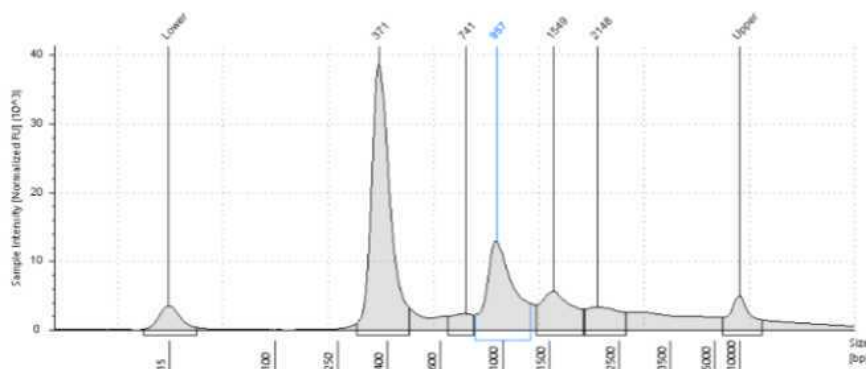

Figure 2: Multimer PCR product formation in multiplex PCR of undiluted high titer samples.
- High titer SARS-CoV-2 samples can exhaust-free ARTIC primers and form aberrant multimers during multiplex PCR (refer fig. 2). These larger amplicons can cause issues during downstream sequencing that impact genome sequence recovery. Hence, RNA samples need to be diluted by their Cycle Threshold or "Ct" values.